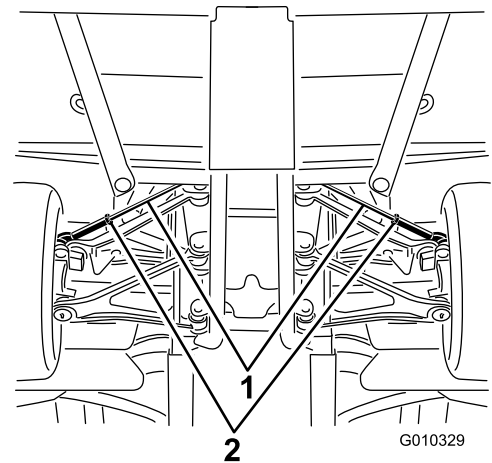

Figure 58
- A. Loosen the jam nut at the center of the tie rod (Figure 58).